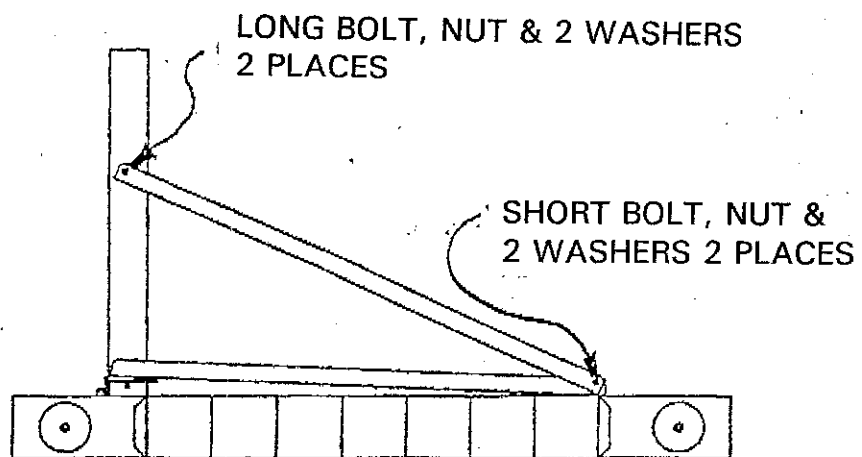

FIGURE 2.1-7
- STEP 11:** Assemble the upper diagonal braces (item# 8, having 2 holes) to the mast with the 5.00" long bolt and 3/8" hardware. Then use the 1" long bolts and 3/8" hardware to attach the braces to the lower diagonal braces as shown in figure 2.1-7.